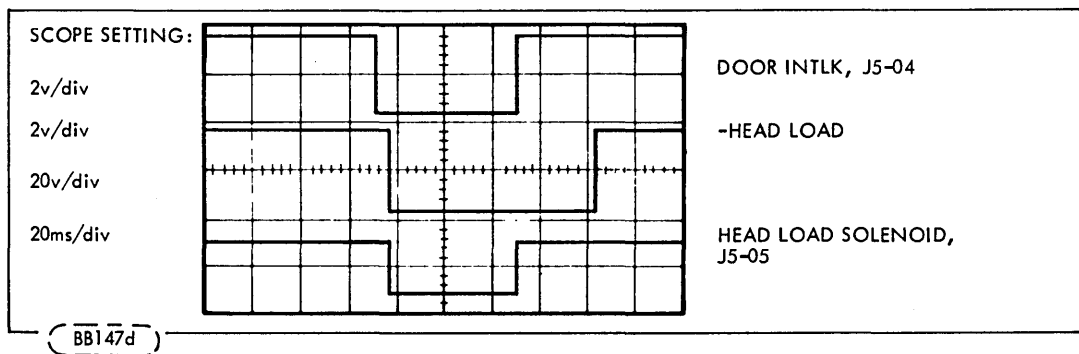

Figure 6-1. -Head Load and Door Interlock Switch
An improperly adjusted FDD may exhibit symptoms of one that has a malfunction; therefore, the Adjustment Procedures (paragraph 6.6) should be performed before assuming that the unit has failed. If the malfunction still exists after the performance of the adjustment procedures, consult Table 6-1 and the Troubleshooting Flow Charts for the symptoms observed, checks to be made, and action to be taken. Refer to Figure 6-1 for test points. Before troubleshooting is started, check all DC supply voltages.
c. Signals should conform to Figure 5-1 and Figures 6-1 through 6-4.